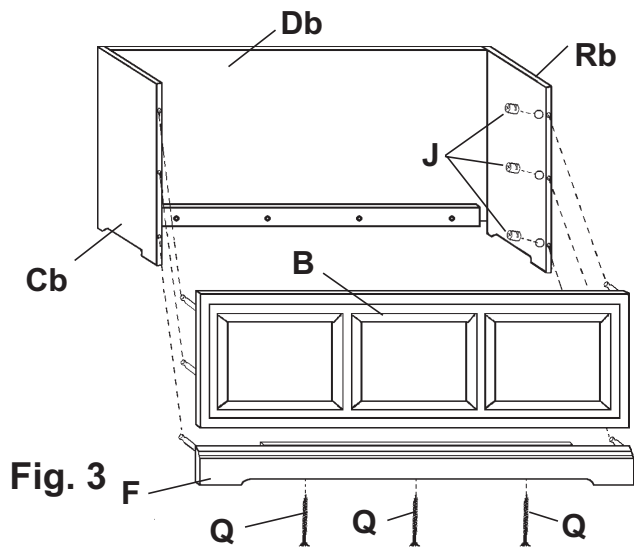

Fig. 3
3. Attach the Front Panel (B) to the Sides (Cb & Rb) with the cam connectors and cam housings in the four upper holes in the sides. Attach the Base (F) in the lower holes. See Figure 3. Insert three #8 x 2-3/4" Black Screws (Q) into the holes in the bottom of the Base (F) and fasten securely.